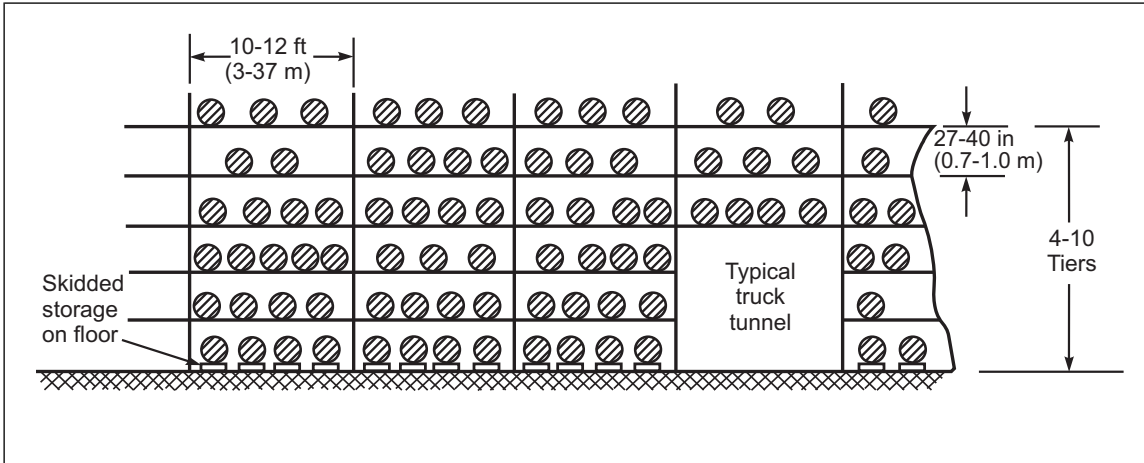
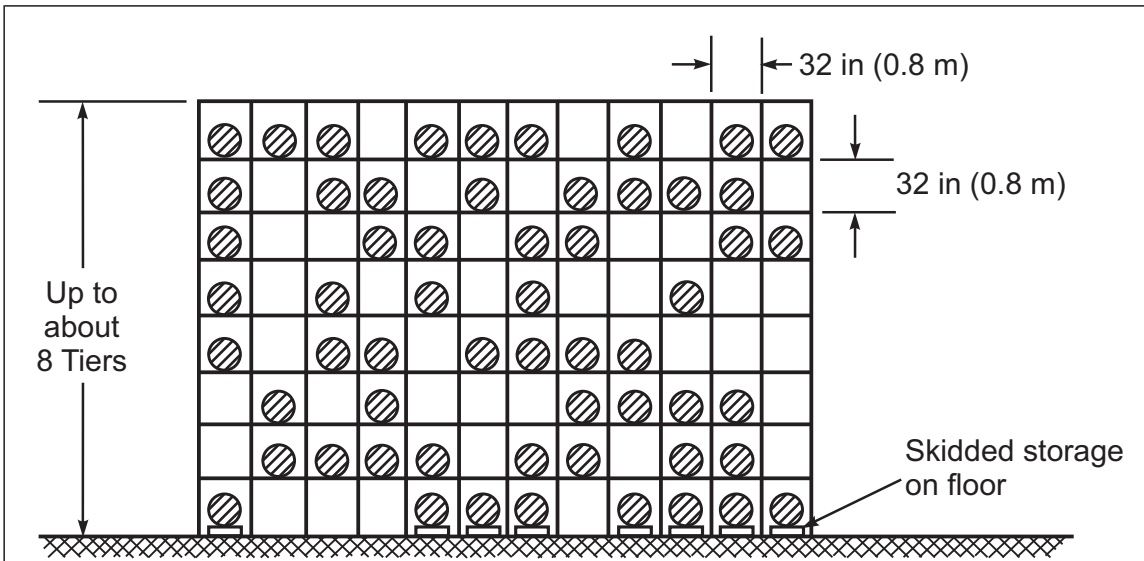
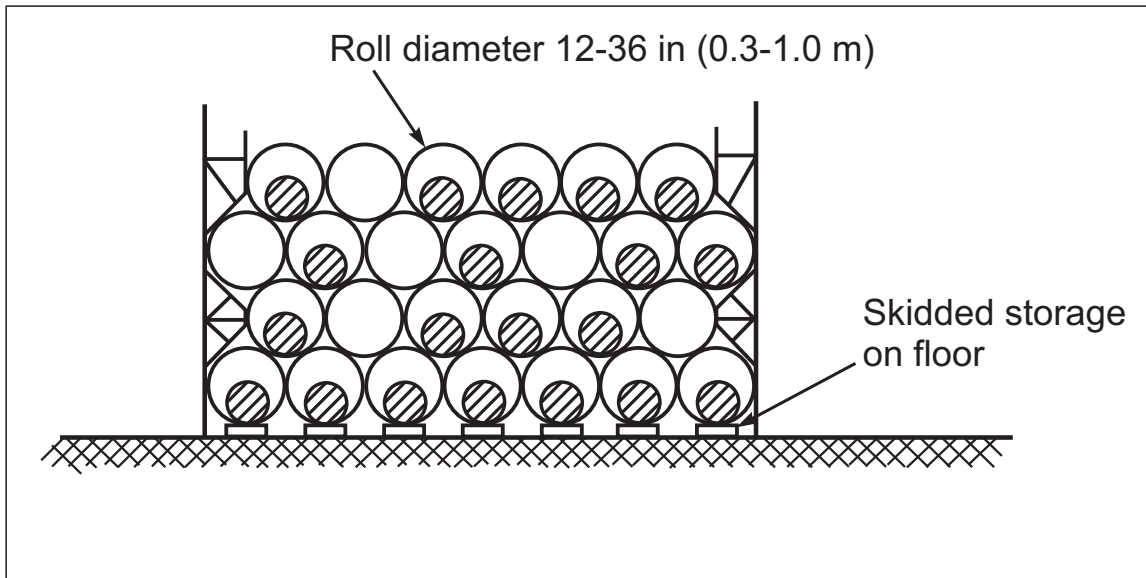

Fig. 2. Typical standard rack for carpet storage
Fig. 3. Typical cubicle rack for carpet storage
Fig. 4. Typical tube storage of carpets
**3.1.2.1 Finished Carpets.** Although small amounts of carpet rolls and carpet pieces (door mats, runner carpet, etc.) in cartons are stored on-floor, palletized, or on racks, rolls of finished carpets are generally stored in standard carpet racks (Fig. 2), cubicle racks (Fig. 3), or in specially designed paperboard tubes (Fig. 4).
**3.1.2.2 Rack Storage.** Standard racks (Fig. 2) may be constructed of steel or wood frames with slatted, solid, or metal decking shelves. They have a rack-tier height of 27 to 40 in. (586 to 1016 mm), but usually are 30 to 36 in. (762 to 914 mm) high. These carpet racks have between 4 and 10 tiers and are 9 to 27 ft (2.7 to 8.2 m) high. The rack length may extend several hundred feet, with vertical supports located every 10 to 12 ft (3.0 to 3.7 m). Normally there are transverse flue spaces at these vertical supports. The rack width is usually 12 to 15 ft (3.7 to 4.6 m) and often racks are placed back to back.
Cubicle racks (Fig. 3) have a series of cubicles approximately 32×32 in. (813×813 mm) high formed by vertical and horizontal rack members. One or two boards (6 to 12 in. [152 to 305 mm] wide) are placed on the lower horizontal rack member of each cubicle. One carpet roll is placed in each cubicle on the board(s), thus separating each roll from adjacent ones by 8 to 12 in. (203 to 305 mm) spaces.
**3.1.2.3 Tube Storage.** Tube storage of carpets (Fig. 4) consists of paperboard tubes primarily nested on floor on special racks. Carpet rolls are placed in these tubes. Generally, the diameter of the tube varies from 12 to 36 in. (305 to 914 mm), depending on the diameter of the roll handled. The tube thickness is designed to hold the carpets and is about  $\frac{5}{8}$  in. (16 mm). The tubes may have a wax coating on the outside.